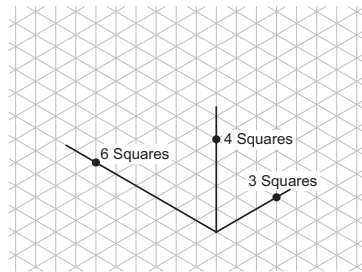

Figure 3-11. Establish the three dimensions of the object. In this case, height = 4 squares, width = 3 squares, and depth = 6 squares.
3. Mark off the height, width, and depth of the object on the three axes, as shown in **Figure 3-11**. For this sketch, we are measuring in squares. You could also use inches, centimeters, or any other unit of measurement.